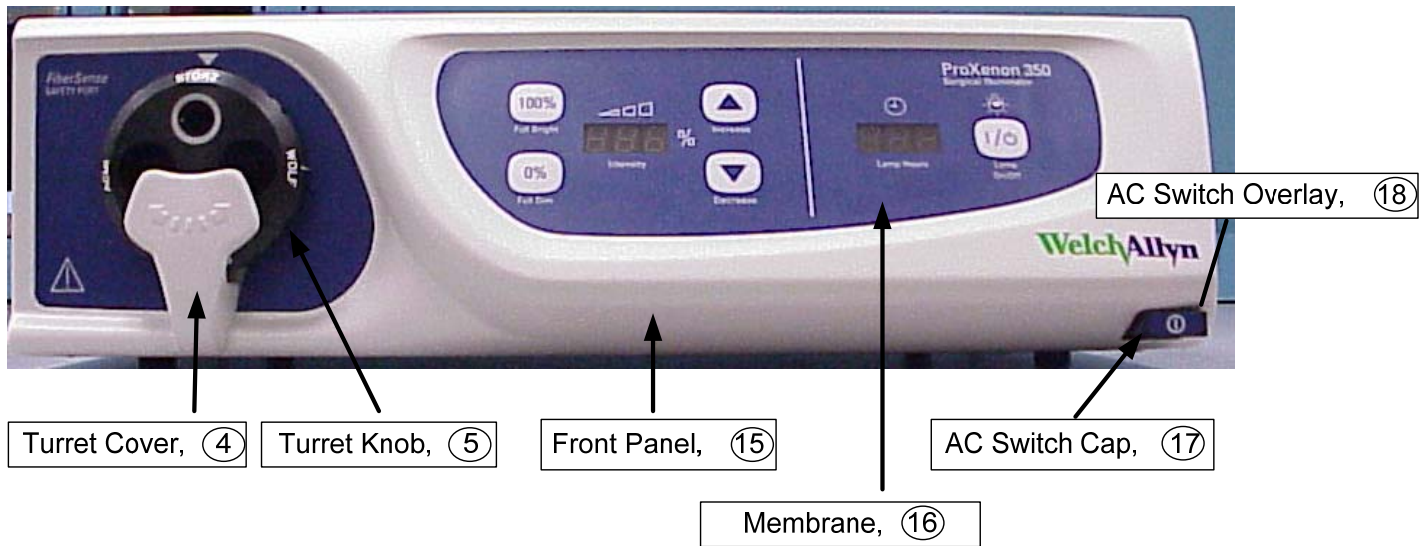

Figure 8
Remove the 10-32 screw securing the turret cover to the front panel – Figs. 8 & 9.
- 1 Remove the four 6-32 Phillips flat head screws securing the turret knob to the turret disk – Figs. 8 & 10.